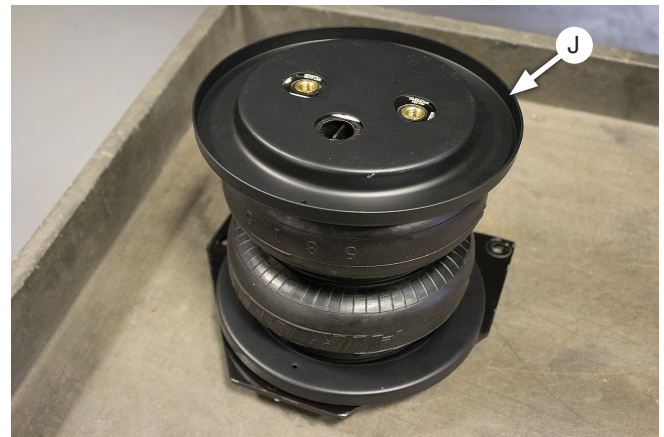

Fig. 9
3. Flip the assemblies over and set roll plates (J) onto the bottoms of the air springs as shown in Fig. 9.